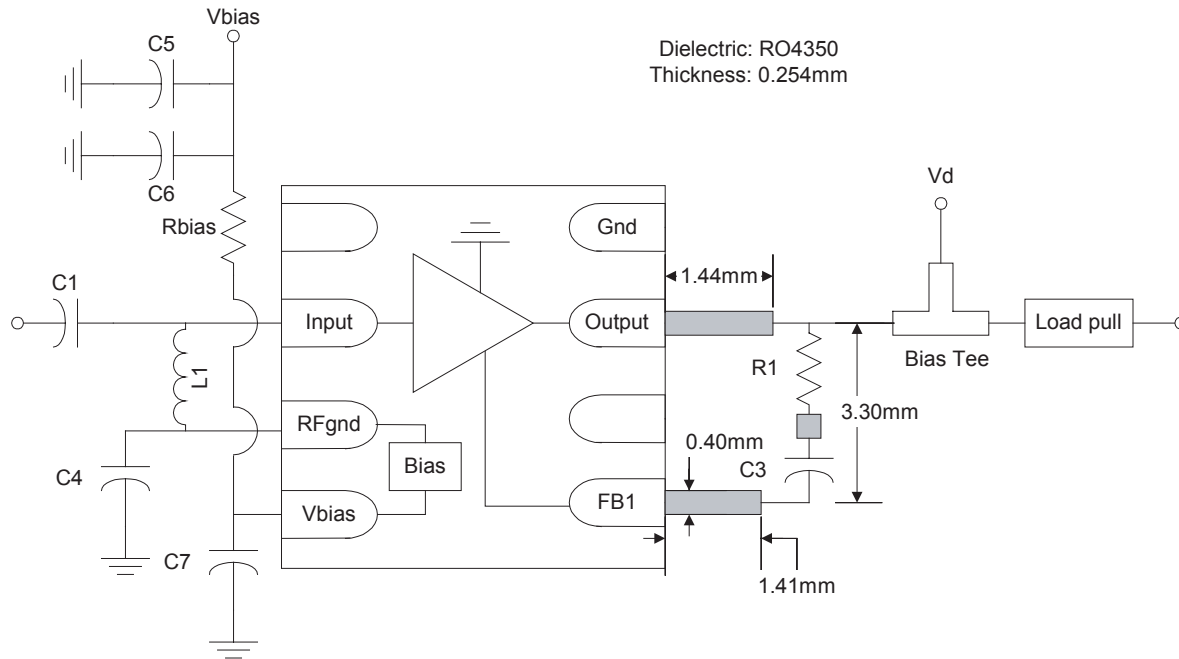

Figure 34. Test setup for load pull data
1. S-parameters are measured on PCB. The PCB material is 10 mils Roger RO4350. Figure 34 shows the input and output reference plane.